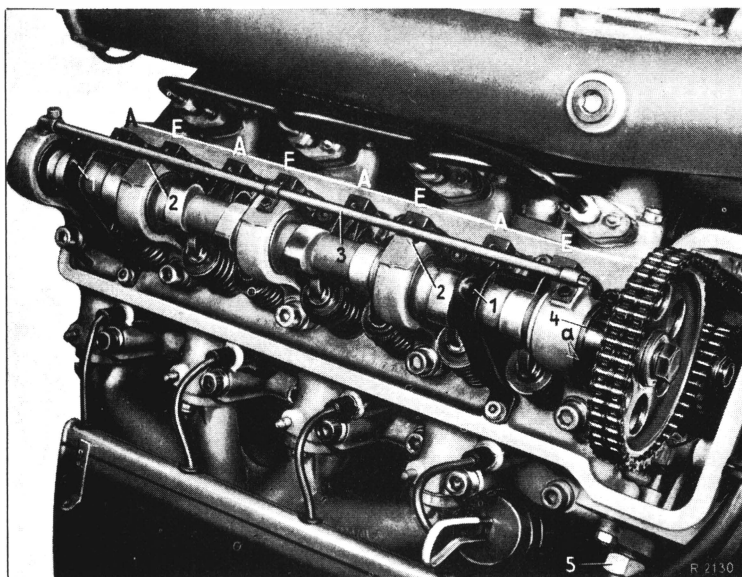

Fig. 01-3/2
10. Unscrew brackets (1) for cylinder head cover (see Fig. 01-3/2).
12. Remove chain tensioner (5) (see Fig. 01-3/2).
14. **Unscrew oil-pressure line to gage (25) at rear end of cylinder head** (Fig. 01-3/1).
correspond with those of the camshaft bearings (Fig. 01-3/2). The crankshaft is at ignition T.D.C. of the 1st cylinder when the T.D.C. mark on the vibration damper corresponds with the indicator and the distributor rotor arm points to the No. 1 cylinder mark on the distributor case.
After 4: Remove bearing bracket (7) together with control shaft (Fig. 01-3/1).
After installing bearing bracket (7) (Fig. 01-3/1), adjust control linkage (see Job No. 00-15).